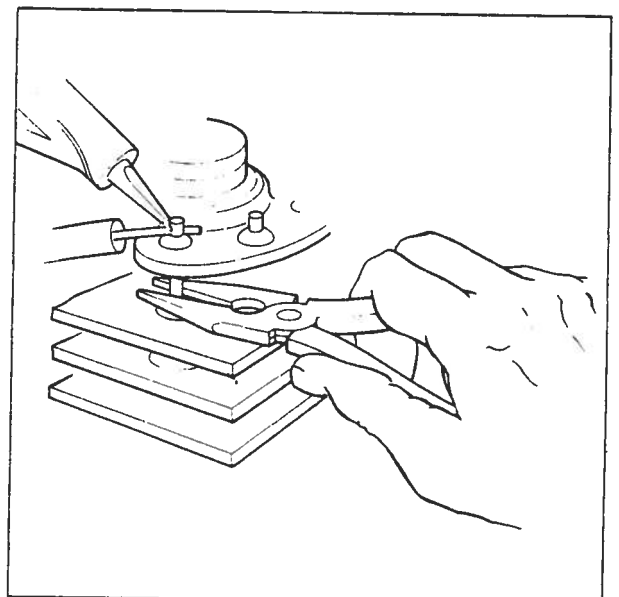

Fig. 45 Use of thermal shunt when soldering diode connections
NOTE: Use only 'M' grade 45-55 resin-cored solder to attach the stator cables to the diode connecting pins. Carry out the operation as quickly as possible, using a thermal shunt to avoid damaging the diode(s). (Long-nosed pliers are suitable as a thermal shunt, (see Fig. 45).
2. Note the arrangement of the stator winding connections to the rectifier diode connecting pins, and then using a thermal shunt (see Fig. 45) and a light-weight soldering iron (e.g. 25-watt) unsolder the connections to the rectifier.